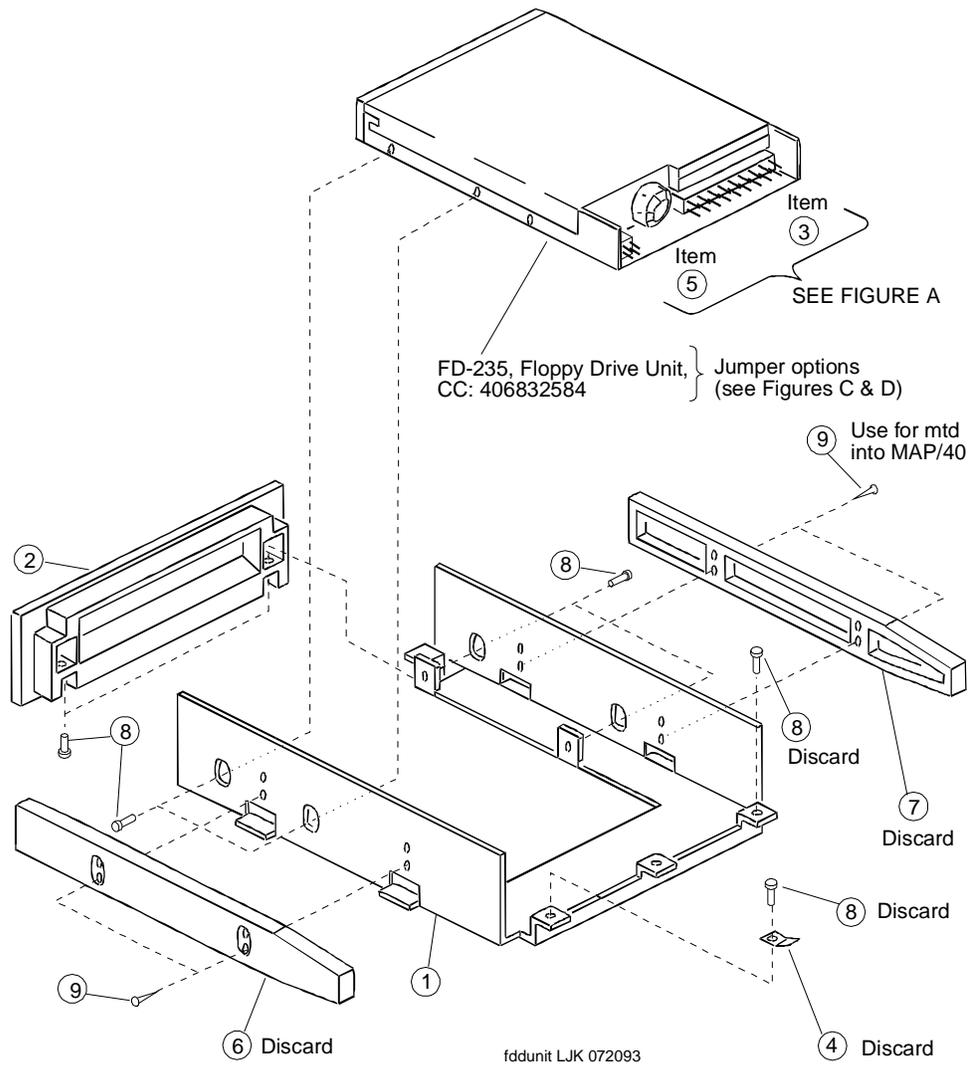

Figure 7-10. Diskette Drive Assembly
10. Remove the four 3-millimeter screws that secure the drive unit to the 5.25-inch diskette drive hardware mounting kit. These screws are shown as item 8 in Figure 7-10.
11. Slide the drive unit back to clear the front bezel. The bezel is shown as item 2 in Figure 7-10.